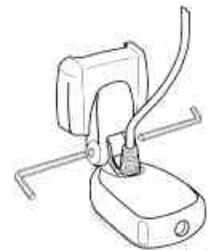

Figure 6
2. Using the Allen wrenches provided, loosely tighten the pivot screw (Figure 6). Do not completely tighten the assembly at this time, so the pivot angle can be adjusted later.